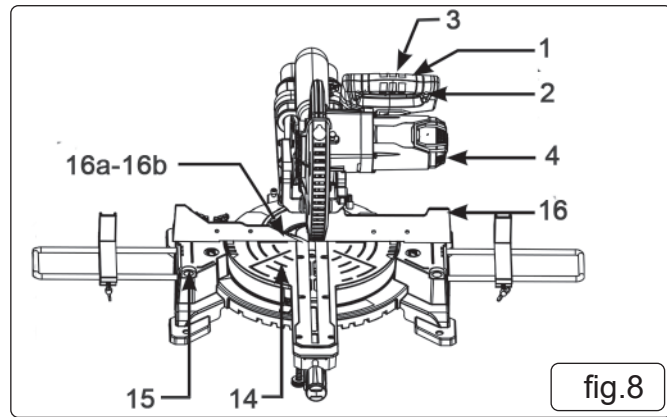

fig.8
- 6.2.1. Unscrew set screw (Fig 8 - 16b) for the moveable stop rail (fig 8 - 16a), move the stop rail towards the saw blade, with a maximum gap of 8mm. Tighten set screw (fig 8 - 16b) to lock moveable stop in position.
- 6.2.2. Place the piece of wood to be cut hard against stop rail (fig 8 - 16) and onto the turn table (fig 8 - 14).
- 6.2.3. Secure the material with clamping device (fig 4 - 7) onto the fixed table (fig 8 - 15) to prevent the material from moving during cutting.
- 6.3.3. Holding the handle (fig 8 - 1) push the machine head (fig 8 - 4) to the rear of the drag guide (fig 2 - 21) and lock in position by tightening screw (fig 2 - 20).
- 6.3.5. Slowly push the machine head downwards via the handle (fig 8 - 1), and continue to move the machine head down until the saw blade (fig 2 - 6) has completely cut through the workpiece.
- 6.4.2. Pull the machine head (fig 8 - 4) to the front of the drag guide. Lower the handle (fig 8 - 1) to its lowest position and push the machine head slowly and steadily backwards until the saw blade has completely cut through the work piece.